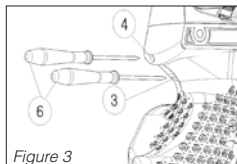

Figure 3
- 17 Stiffness of spring of trigger squeezing wall which is the second stage is adjusted with a plain screwdriver No. 6 in figure 3 No. by turning it through hole No. 4. (Screwdriver tip width should be no more than 3 mm).
- 20 Trigger wall moving path setting: This setting is made by flat-tip screwdriver No. 6 through hole 3 figure 3.
- 17 En seconde étape, le réglage du ressort du poids de la détente s'effectue en introduisant un tournevis à bout plat no:6 (Figure 3) dans le trou no:4 (L'ouverture du clé de vis doit être au maximum de 3mm)